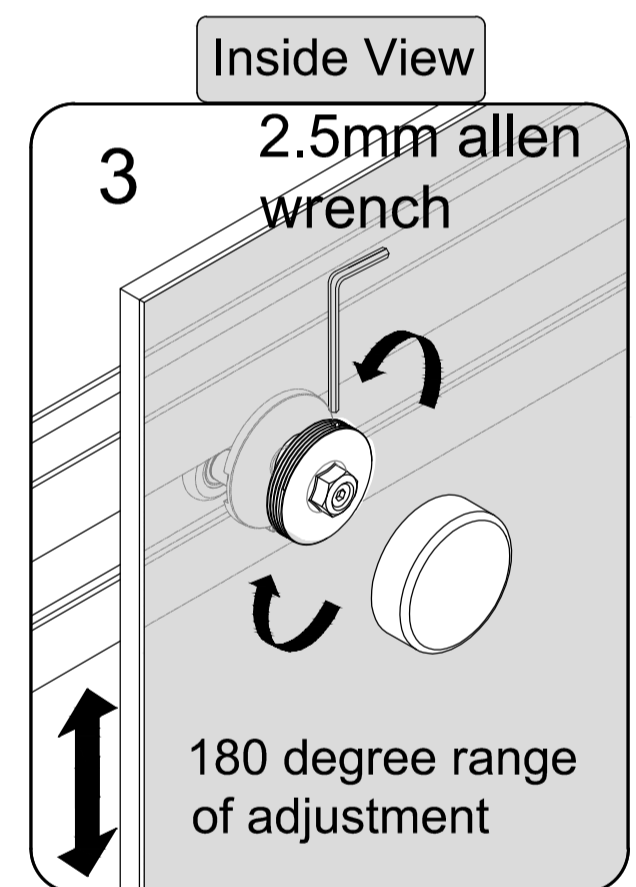

Fig.3
3. Drill the holes as Fig.3 and Fig.4;
3. Adjust rollers up or down to make sure the door align with wall as Fig.3.